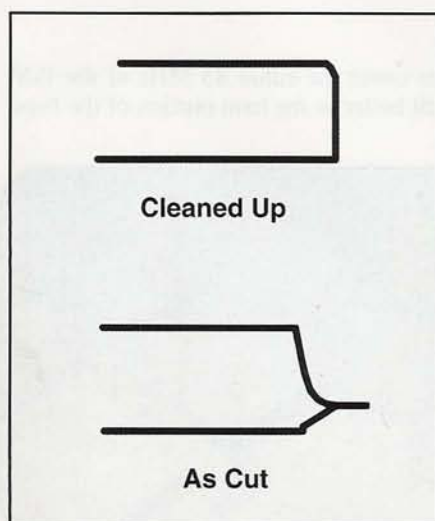
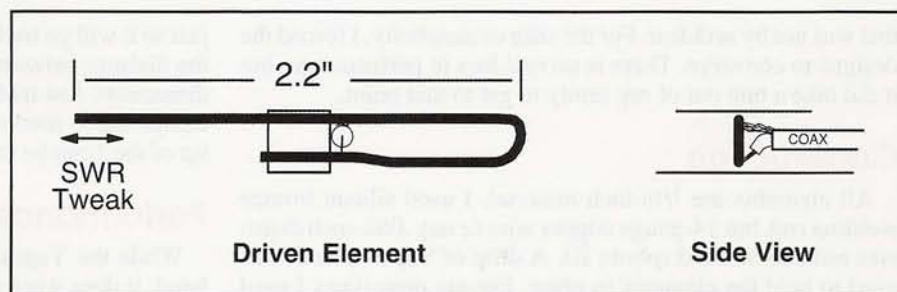

Figure 1. Element ends.
Figure 2. Driven element of both the 6-element and 11-element versions.
When things get small, little things become big things. Just how the ends of the elements are cut makes a difference (figure 1). My prototype wouldn't tune up until I cleaned up the jagged ends of the elements. A few quick strokes with a flat file—or in my case, a second on the belt sander—fixed the problem. The antennas covered here have similar dimensions (figure 2 and Table I), and
*Driven element is per figure 2 for both Yagis.